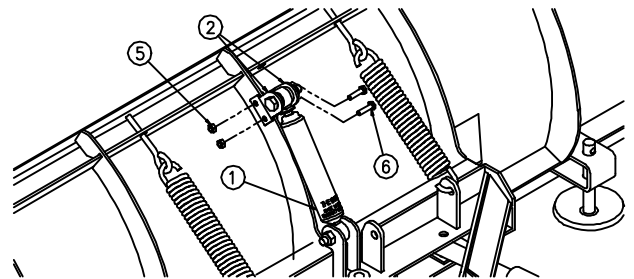

Figure 5. Install Shock Mounts to Plow Blade G10063
- 5) Locate the two holes in the center rib of your Straight Blade. Align the small holes in Blade Shock Mounts (2) with the holes in the center rib of the snowplow as shown in Figure 5. You must have one Blade Shock Mount (2) on each side of the center rib. Attach with two 3/8"-16 x 1 1/2" Hex Head Cap Screws (6) and two 3/8"-16 Nylon Lock Nuts (5). Leave the hardware finger tight.